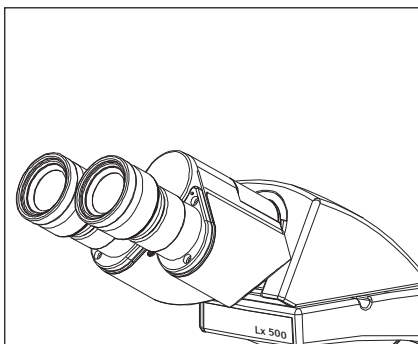

Fig. 9
2. Insert 10x eyepieces into the spring loaded eye tubes to prevent undesired rotation of eye pieces. See figure 9.